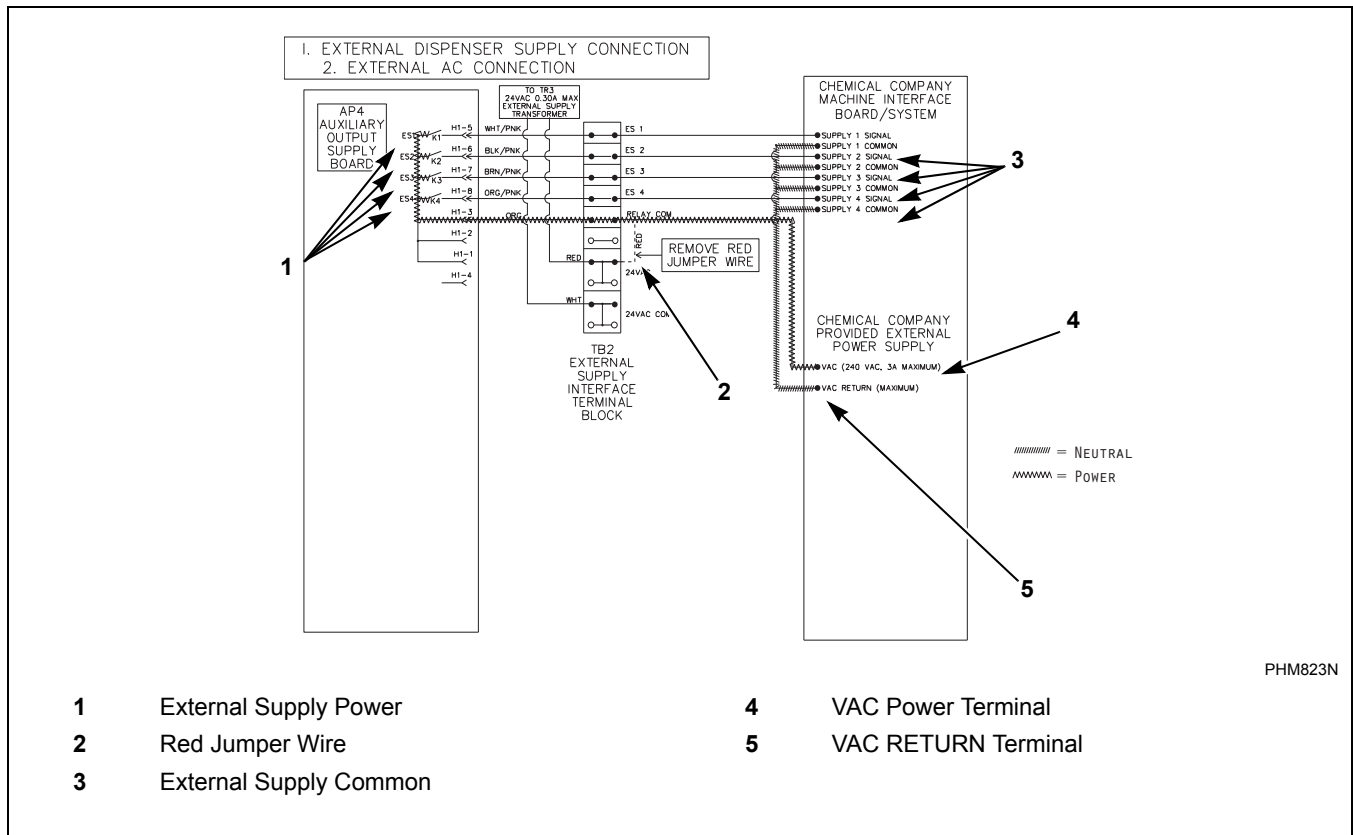

Figure 27
2. Connect one side of the external power to the “RELAY COM” and the other to the external dispenser input signals common. Refer to *Figure 27*.